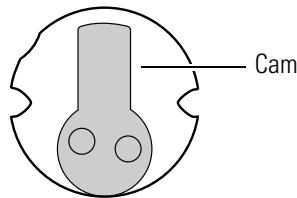

Figure 5.4 Back view of cam in 12 o'clock position
3. From the back end of the cylinder, rotate the cam to the 12 o'clock position. See Figure 5.4.